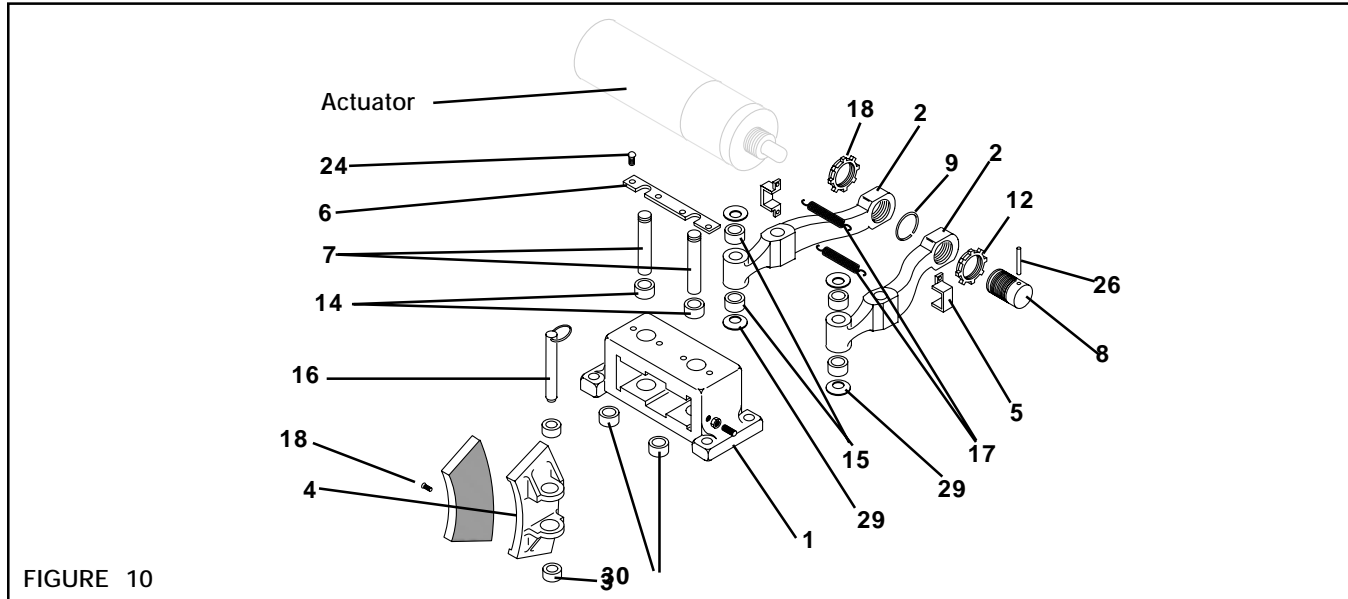

FIGURE 10
1. Loosen the Spanner Nut (Item 12) (See Figure 10).
2. Remove the Actuator from the Brake Arm (Item 2) (See Figure 10).
3. Remove the Extension Springs (Item 17) and Spring Clips (Item 5) from the Brake Arms (Item 2) (See Figure 10).
4. Remove the Detent Pins (Item 16) from the Brake Arms (Item 2), Friction Facings (Item 4), Shoes (Item 3), and Belleville Disc Springs (Item 29) (See Figure 10).
5. Slide the Friction Facings (Item 4) and Shoes (Item 3) off of the Brake Arms (Item 2) (See Figure 10).
6. Remove the four Cap Screws (Item 24) securing the Pivot Pin Retaining Plate (Item 6) (See Figure 10).
7. Remove the Pivot Pin Retaining Plate (Item 6) (See Figure 10).
8. Press the Pivot Pins (Item 7) out of the BD Caliper Brake (See Figure 10).
9. Slide the Brake Arms (Item 2) out of the Main Frame (Item 1) (See Figure 10).
10. Press the old Sleeve Bearings (Items 14 and 30) out of the Main Frame (Item 1) (See Figure 10).
11. Press new Sleeve Bearings (Items 14 and 30) into the Main Frame (Item 1) (See Figure 10).
12. Press the old Sleeve Bearings (Item 15) out of the Shoes (Item 3) (See Figure 10).
13. Press new Sleeve Bearings (Item 15) into the Brake Arm (Item 2) (See Figure 10).
14. Slide the Brake Arms (Item 2) back into the Main Frame (Item 1) (See Figure 10).
- NOTE:** There is one threaded hole on each side of the front of the Main Frame (Item 1). The BD Arms (Item 2) must be inserted into the Main Frame from the opposite end. (See Figure 10)
15. Install the Pivot Pins (Item 7) (See Figure 10).
16. Install the Pivot Pin Retaining Plate (Item 6) (See Figure 10).
17. Install the four Cap Screws (Item 24) to secure the Pivot Pin Retaining Plate (Item 6) (See Figure 10).
19. Slide the Friction Facings (Item 4) and Shoes (Item 3) over the Belleville Disc Springs (Item 29) and onto the Brake Arms (Item 2); then, install the Detent Pins (Item 16) (See Figure 10).
20. Install the Spring Clips (Item 5) and Extension Springs (Item 17) onto the Brake Arms (Item 2) (See Figure 10).
21. Screw the Actuator back onto the Brake Arm (Item 2) as far as possible (See Figure 10).